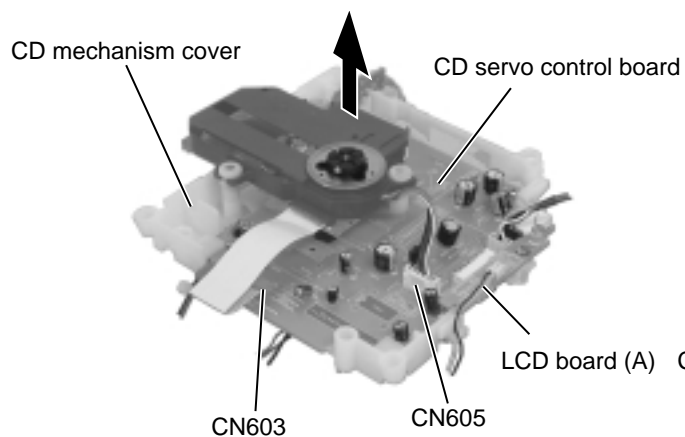

Fig.21
### ■ Removing the LED board (A) (See Fig.21)
1. Remove the screw O attaching the LED board (A).